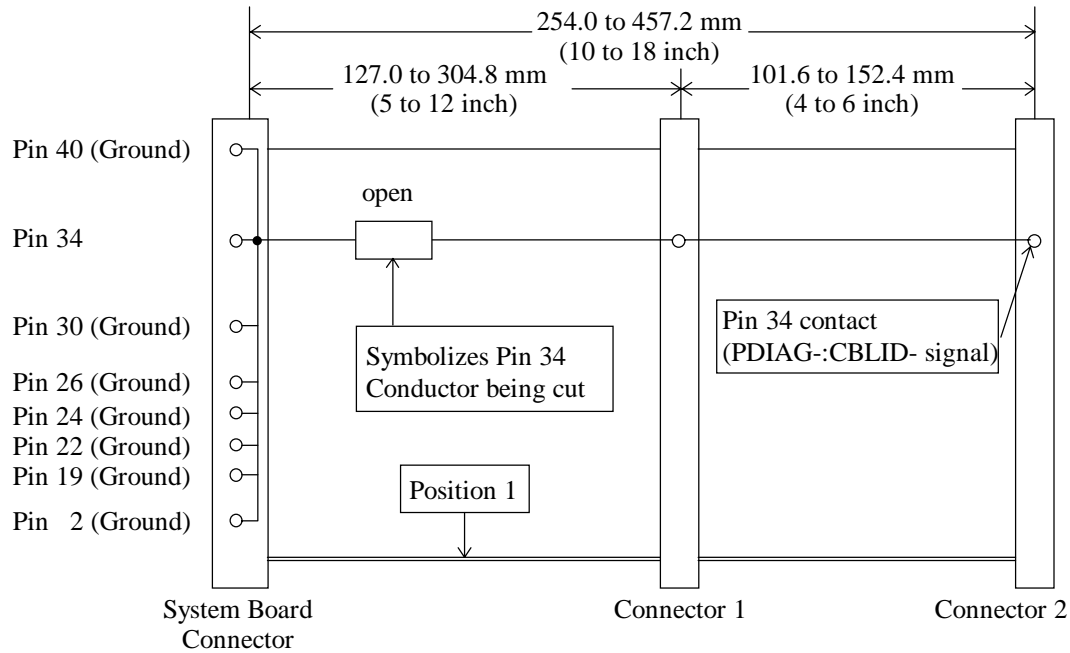

Figure 3.11 Cable configuration
- 4) The dimensions are shown in Figure 3.11.